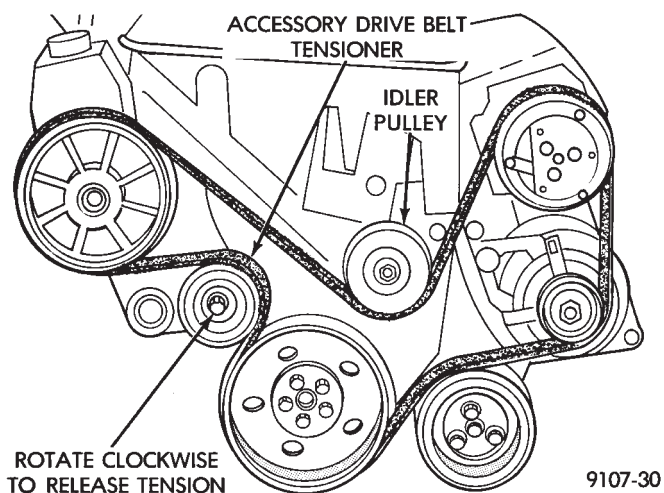

Fig. 7 Accessory Drive Belt—2.2L Turbo III Engine
The Poly-V Drive belt is provided with a dynamic tensioner (Figs. 7 and 8) to maintain proper belt tension. To remove or install this belt.
- (1) Raise vehicle on hoist.
- (2) Remove right front splash shield.
- (3) Release tension by rotating the tensioner clockwise (Figs. 7 and 8).
- (4) Reverse above procedure to install.